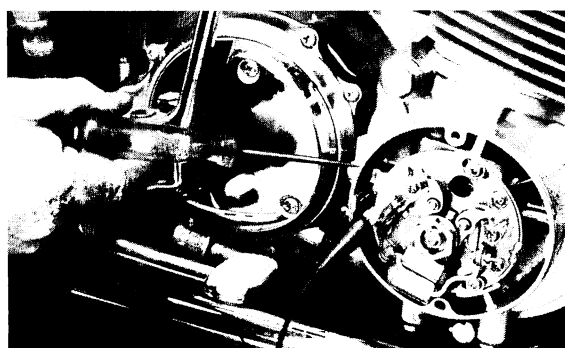

Fig. 21-23 Test light across points, switch on
3. With battery current on and test light across the points, rotate the plate until the light just lights. The current will go through the points until they open and then the light will come on (Fig. 21-23).